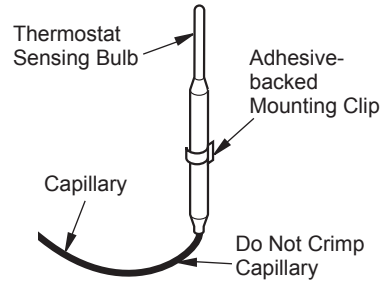

Figure 40 - Positioning the Thermostat Sensing Bulb in the Vertical Position with the Capillary at the Bottom
- The mounting clip must be a minimum of 3" from bottom of fireplace to prevent crimping of capillary. Once you have decided on a location, clean the area thoroughly. Remove the paper backing from the adhesive on back of mounting clip. Press the clip into the new location so that the thermostat sensing bulb will be positioned vertically with the capillary at the bottom (see Figure 40). Slide the thermostat sensing bulb into the clip.